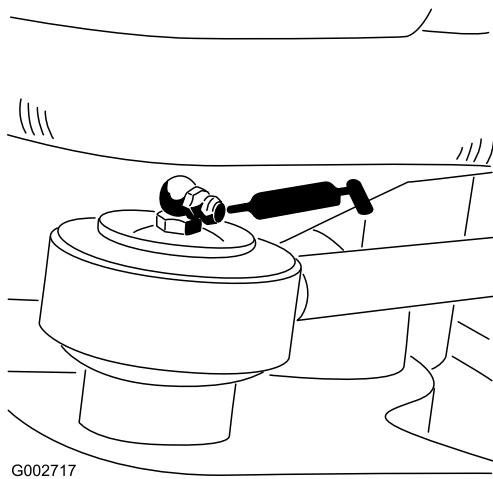

Figure 23
- 1 Steering cylinder rod end bearing—Model 08705 only (Figure 23).